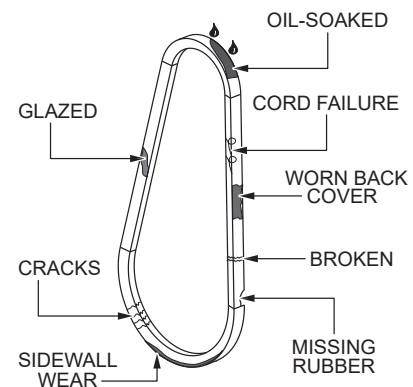

**Figure 59. Spark Plug**
1. Remove the spark plug (Figure 59) and clean it with a wire brush if it is to be reused. Replace the spark plug if the insulator is cracked or chipped.
2. Using a feeler gauge, adjust the spark plug gap (Figure 59). The gap should measure 0.028–0.031 inch (0.7–0.8 mm).